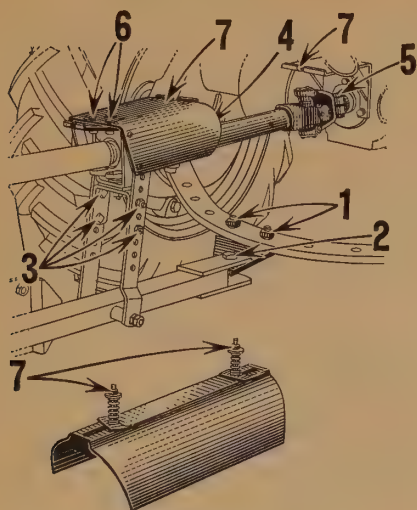

Fig. 34
1. (Fig. 34.) Bolt extension drawbar plate to **under-side** of tractor drawbar as shown.
2. (Fig. 34.) Connect Binder to extension drawbar plate.
3. (Fig. 34.) Adjust height of power shaft front bearing to level power line as shown.
4. (Fig. 34.) Remove tape around key in front end of telescoping pipe for power drive. Remove cap screw, lugged lock washer and notched retaining washer from front end of telescoping pipe. Slide rear universal joint onto front end of telescoping pipe and replace notched retaining washer, lugged lock washer and cap screw. Be sure to fit bent lug on lock washer into notch in retaining washer and to bend remaining lugs on lock washer over head of cap screw.
5. (Fig. 34.) Slide front splined universal joint onto take-off shaft on tractor and secure in place with clamp bolt and cotter.
6. (Fig. 34.) Bolt power shaft shield to **rear** set of holes in power shaft front bearing housing.
7. (Fig. 34.) Attach universal joint and pipe connection shield to take-off shield on tractor and to shield on power shaft front bearing as shown.